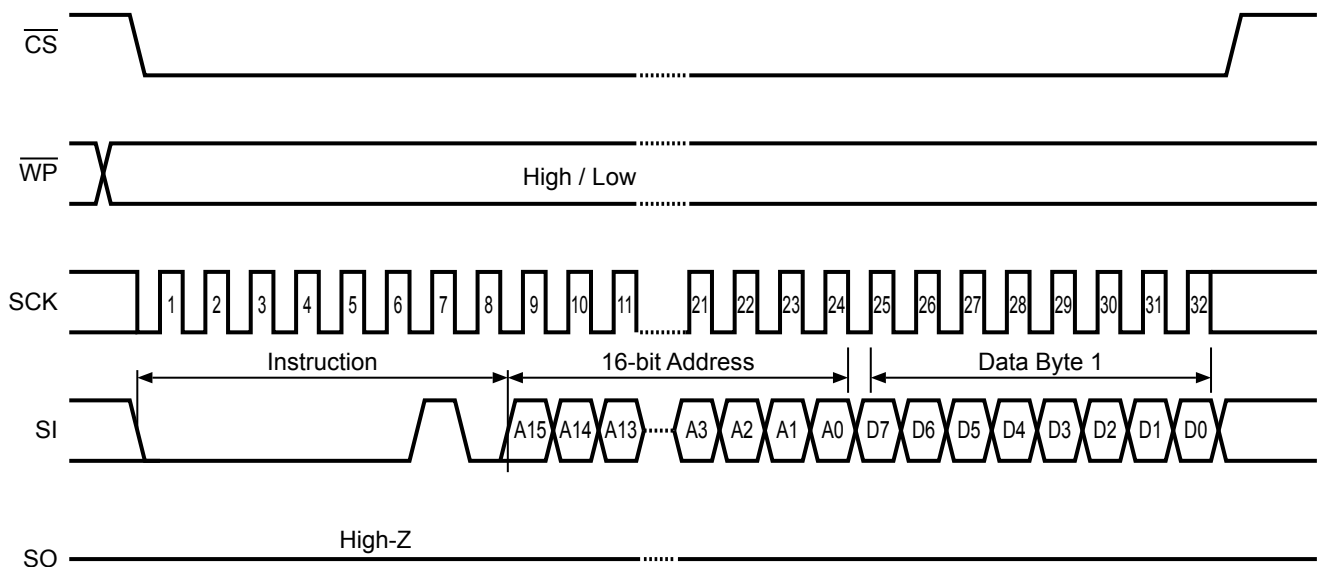

Figure 16 WRITE Operation (1 Byte)
Figure 16 shows the timing chart when inputting 1-byte data. Input the instruction code, the address and data from serial data input (SI) after inputting “L” to the chip select ($\overline{\text{CS}}$). To start WRITE (t_{PR}), set the chip select ($\overline{\text{CS}}$) to “H” after inputting data or before inputting a rising of the next serial clock. Bit WIP and WEL are reset to “0” when Write has completed.